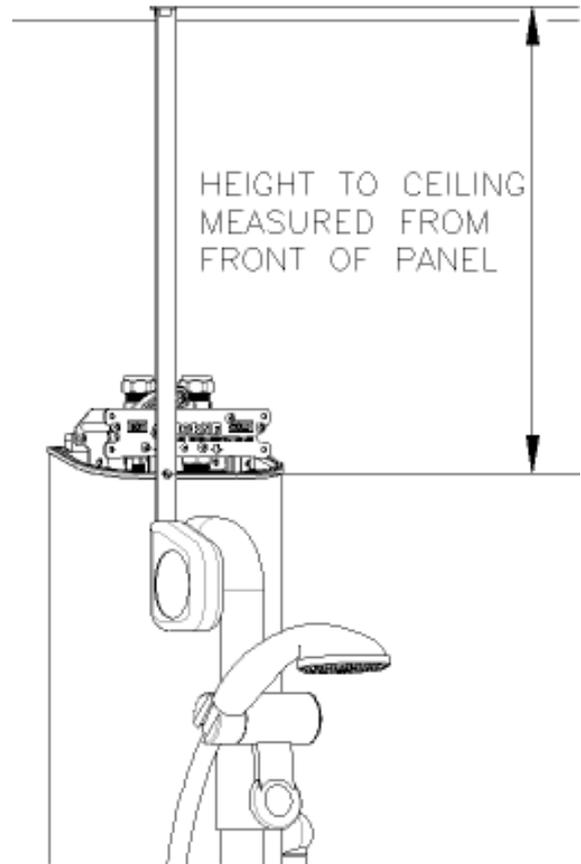

Fig. 3
Slide the Pipe Cover (Item 4) down into place, engaging with both the Alignment Pins (Items 6) and the Gasket (Item 5). If the Pipe Cover is too long to do this, then measure the gap between the ceiling and the panel and cut the square TOP end of the Pipe Cover to make the Pipe Cover 15mm **SHORTER** than the gap using a saw suitable for use with aluminium. **NB. DO NOT CUT THE ANGLED END OF THE PIPE COVER** or it will not fit neatly onto the top of the Shower Panel. See Figs 3 and 4.
- The ILTDU will not operate as intended unless it is configured exactly as shown in Fig 3. It is expressly not permissible to swap over inlets and outlets, or hot and cold pipework, even if these are done symmetrically. Check the plumbing against the connections shown in Fig 3.